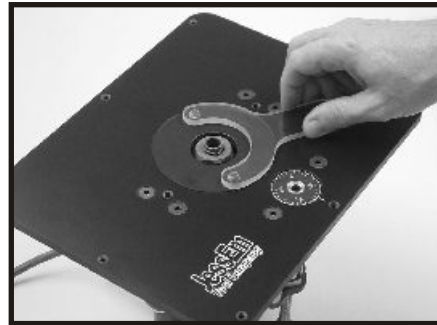

FIG. 4
1. Place the insert ring into the centerhole of the Lift's top plate (Fig. 4).